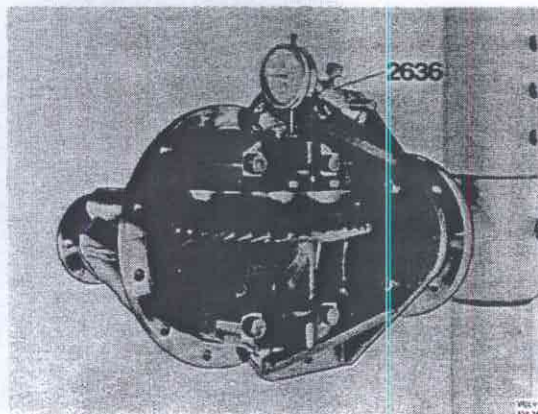

Fig. 46-72. Fixing the dial indicator
1. Fix the dial indicator holder 2636 on the fixture, Fig. 46-72. Fix the dial indicator in position. Set the measuring point to the bearing inner race.